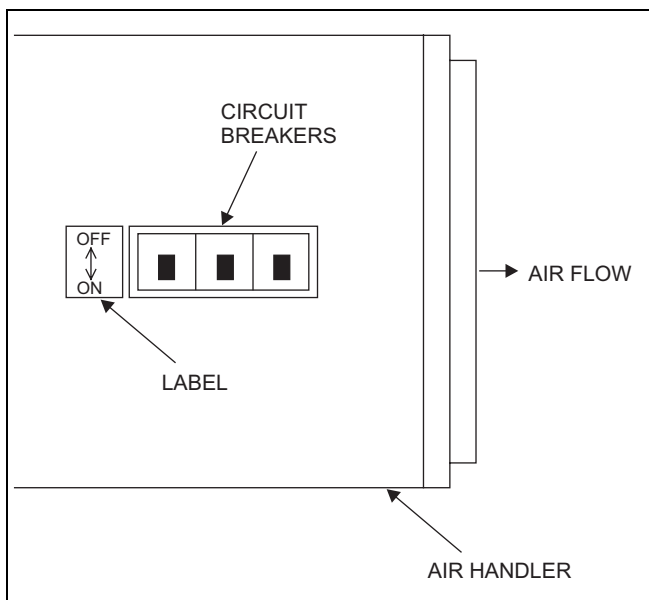

FIGURE 7 :
The low voltage transformer and the fan / heater control are standard on all models. The air handlers are shipped pre-wired to operate as cooling only applications. To complete the installation for cooling only, install a 6-pin jumper plug to the control board to bypass the heater limit controls. This jumper plug is secured to the duct cover near the 4-pin power plug harness or is in the customer packet. Failure to install the plug will cause the blower to run continuously. See Figure 7. Mark the unit nameplate with the appropriate heater selection on the space provided or NONE to indicate cooling only.
1. Remove the 4-pin power plug from the control board (See Figure 7).
For units with heaters with circuit breakers in a horizontal right application, a label must be applied to the unit to describe the circuit breaker orientation. The label is included in the installation instruction packet. See Figure 7.